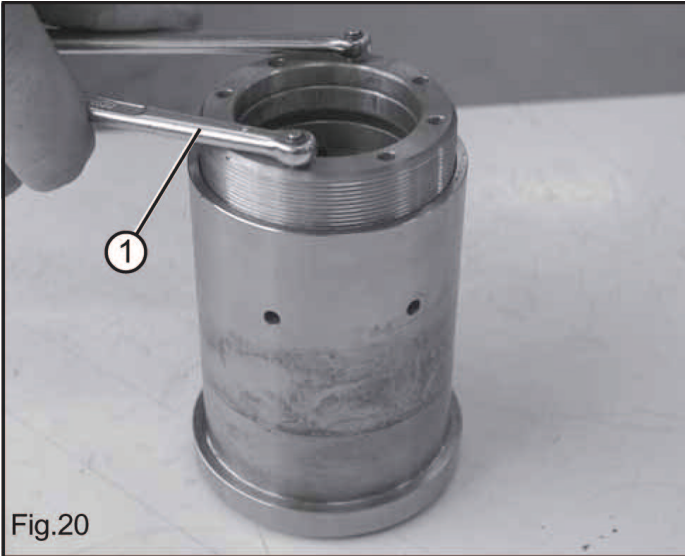

Fig.20
Disassemble the packing support from the cylinder by means of a pin key (1, Fig. 20).